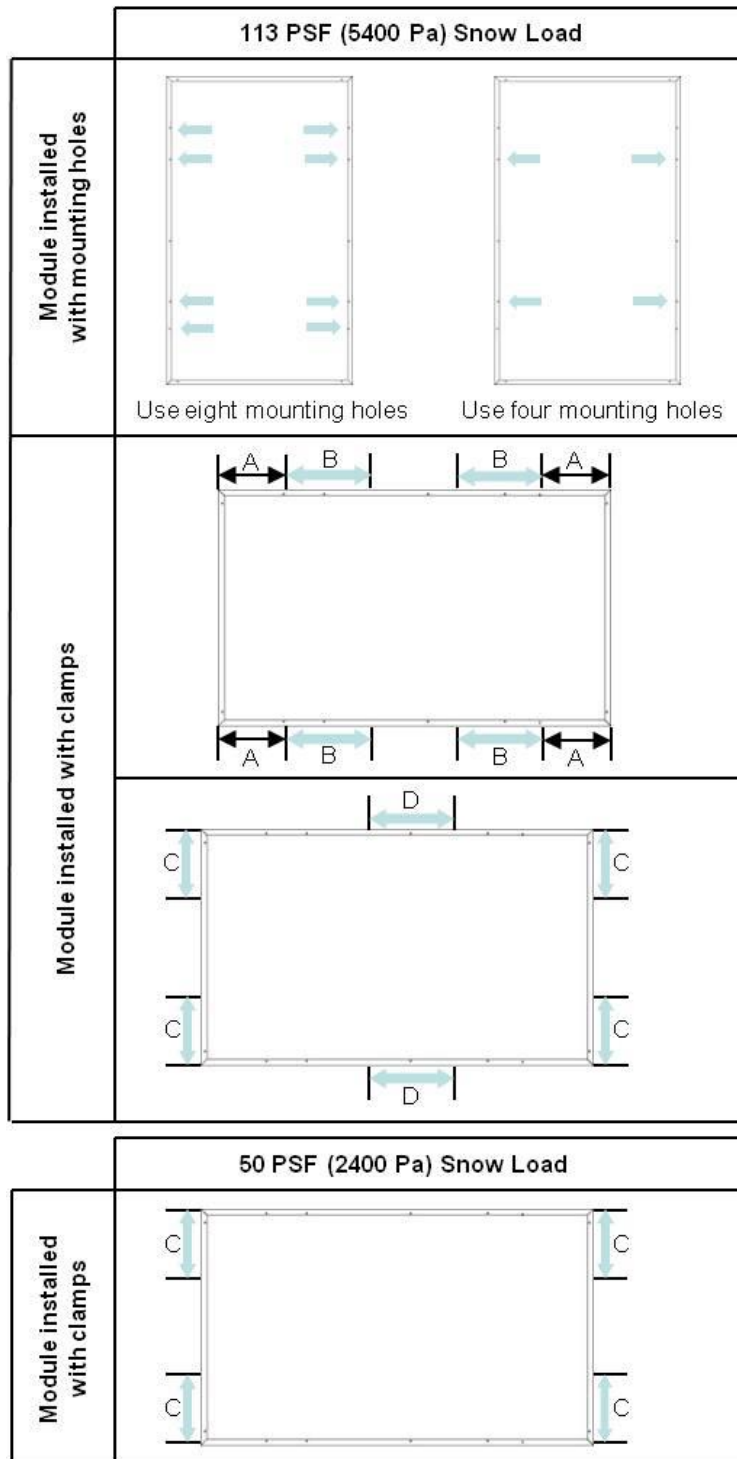

Figure 1
There are different ways to attach the solar module. The solar module of AXITEC LLC can be attached and installed with mounting holes or clamps. The module can be installed in both landscape and portrait modes. Figure 1 shows the different mounting options with the appropriate snow loads.
Module can be mounted at 4 (four) or 8 (eight) symmetrical quarter points within the shaded areas shown in Figure 1. This method offers a maximum loading of 113 PSF (5,400N/m2) in a static state on the module surface.
The frame of each module has eight (8) 0.26 x 0.39 inch (6.5mm x 10 mm) mounting holes. The four holes of the module (shaded areas Figure 1) are most often used for mounting. These are used to secure the modules to the supporting structure. The standoff method or the rack method is recommended in case the modules will be mounted on the roof of a building. The modules are supported parallel to the surface of the building roof. To prevent wiring damage and to allow air to circulate behind the module, clearance between the module frames and surface of the roof is required. The standoff minimum height is **3.9 inch** (about 100 mm) (refer to Figure 2). If other mounting means are employed, this may affect the listing for fire class ratings.